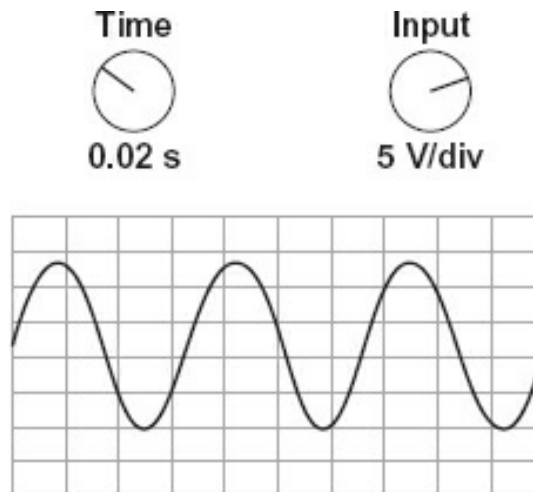

Figure R3-1.
1. Given the signals on the graticules illustrated in Figures R3-1, R3-2, and R3-3, determine and list the approximate voltages and frequencies displayed.